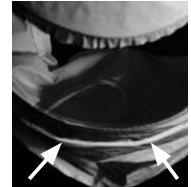
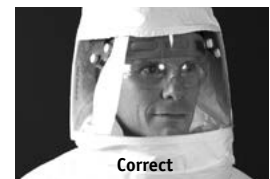

Figure 27
Figure 28
6. Ensure that the neck cuff is down below the chin and that the air outlets of the cuff (see Figure 27) are not restricted. If the neck cuff is not below the chin, then pull down before continuing (See Figure 27).
6. Ensure that the neck cuff is down below the chin and that the air outlets of the cuff are not restricted. If the neck cuff (see Figure 27) is not below the chin, then pull down before continuing (See Figure 28).